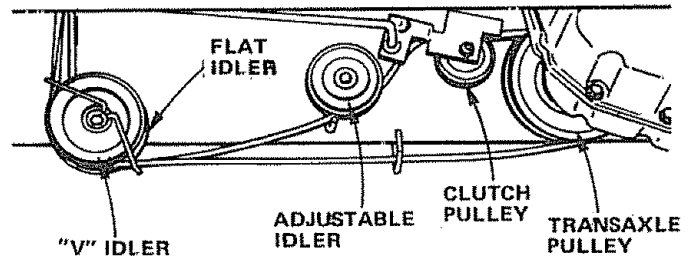

FIGURE 54
- e. Roll Belt off "V" Idler, Flat Idler and Adjustable Idler Pulleys (Fig. 54).
- d. Make sure "V" part of Belt engages "V" Idler (Fig. 54).